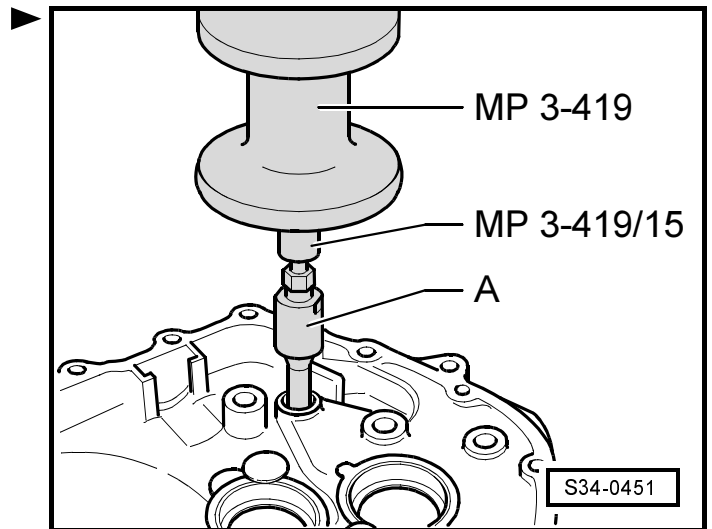

Fig. 6: Drive in the bushing for the shiftrod up to the stop.
- inserting ⇒ Fig. 6 in **34-11** page 4